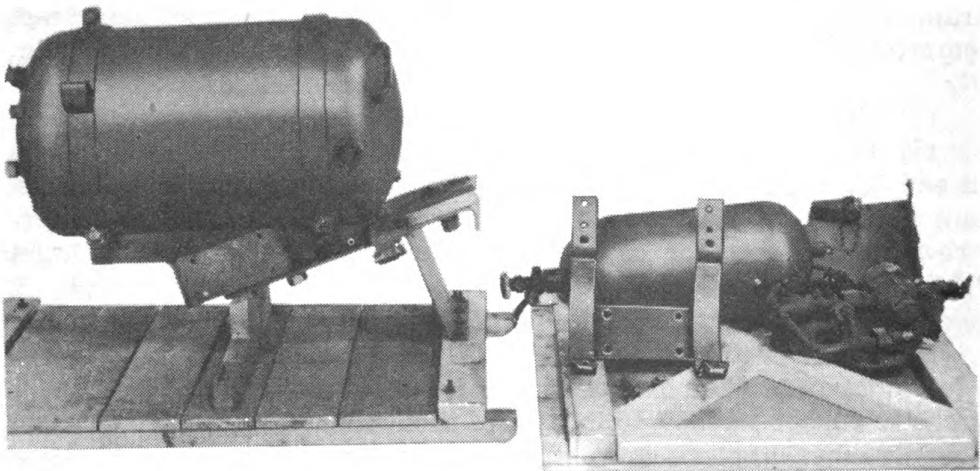
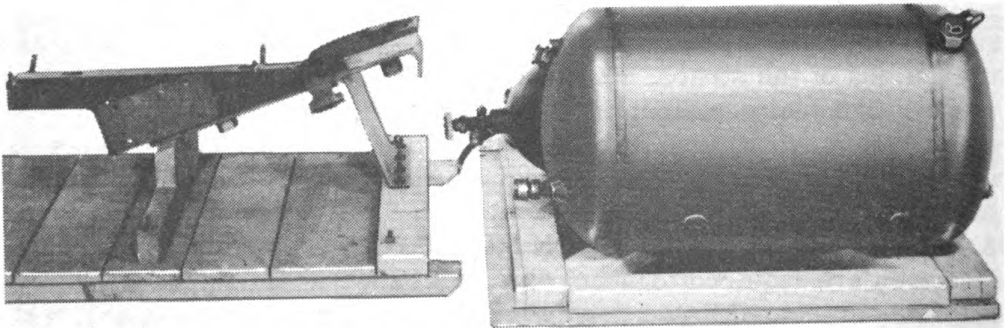

Fig. 29. Back pressure container strap assembly removed.
Fig. 30. Fuel container and straps removed from baseplate.
(11) Remove back pressure container strap assembly by removing the four bolts (fig. 29).
(12) Remove low pressure gage from fuel container.
(13) Remove the two fuel container straps by loosening the two nuts at each end of the straps, but do not remove stud bolts.
(14) Lift fuel container from baseplate (fig. 30).
(15) Remove baseplate by unbolting the two bolts holding base to wooden skid of packing box.